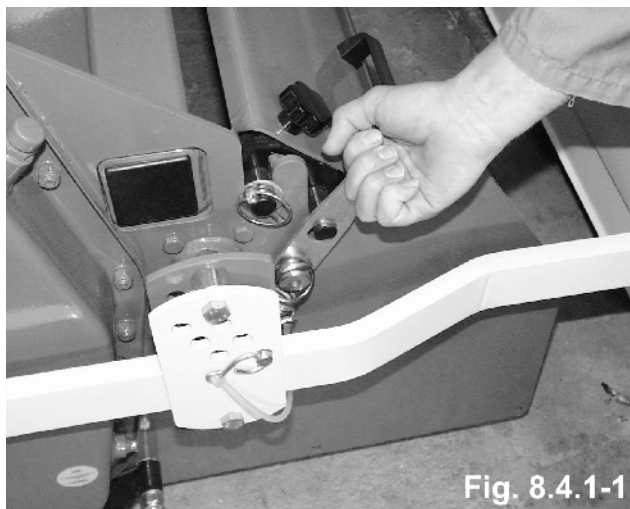

Fig. 8.4.1-1
- If it is not possible to unblock the rotor, remove the leveller cover (Fig. 8.4.1-1).
- Remove the harrow sieve completely (Fig. 8.4.1-2).